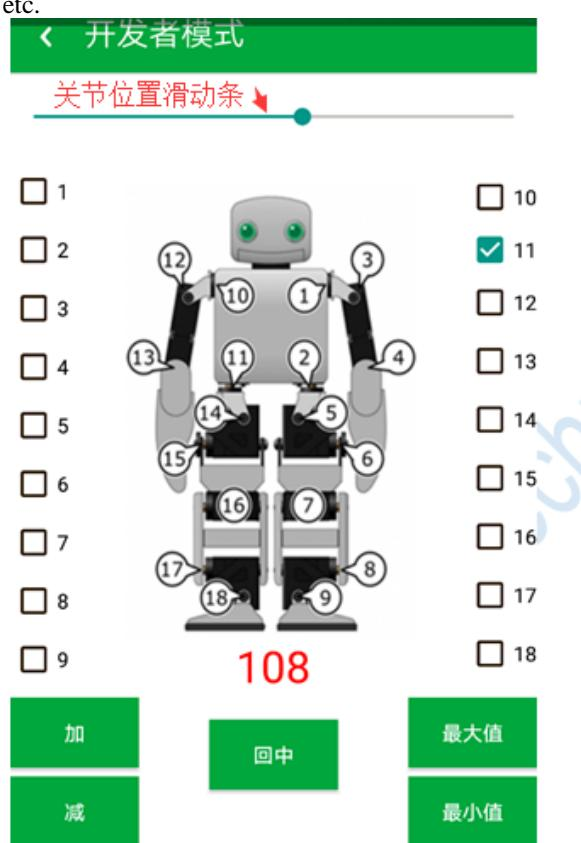

figure 4.3.g
- 1, enter debug interface after adjust the position of the robot according to the corresponding steering gear number keep robot standing posture as shown in figure 4.3. Shown in g, such as the robot's two toe is not on a level, the adjustment of steering gear (joint) and 9, 18 makes two toes on a straight line, after the adjustment, click the "back" to save the current position as a standard robot's initial position.
4. The position of the final adjustment is basically as shown in figure 4.3.